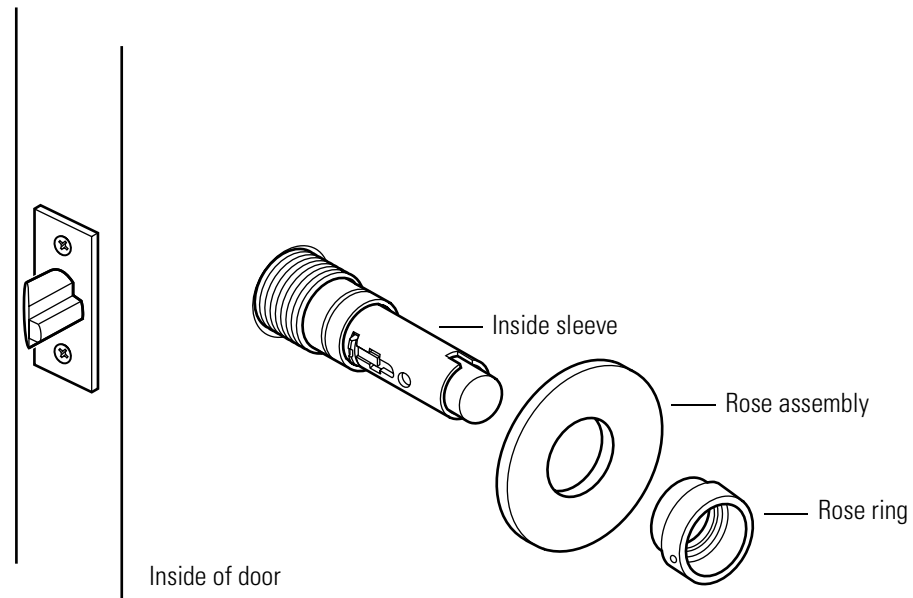

Figure 3.8 Reinstalling the inside rose assembly and rose ring
1. Slide the rose assembly onto the sleeve, as shown in Figure 3.8.